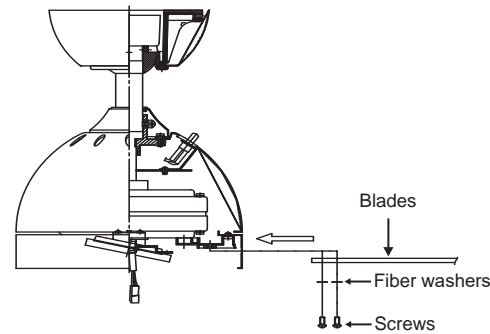

Fig. 16
Step 1. Insert the blade through the blade slot in the motor housing. Align the holes in blade and blade bracket, making sure the holes are also aligned and secure with the screws, fiber washers and blade support plates provided. Repeat process with other blades. (Fig. 16)